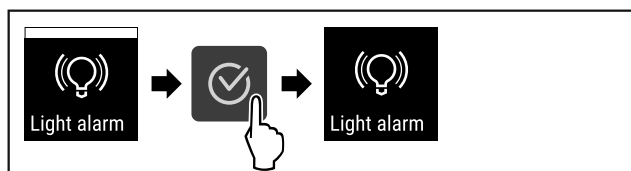

Fig. 120
- ▶ Carry out steps (see Fig. 120) .